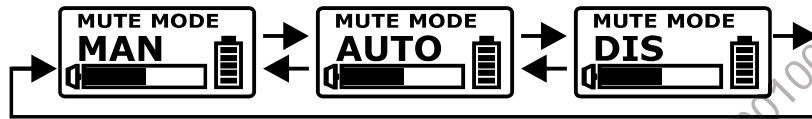

Fig. 15
(F) MUTE MODE: Mute Setting. Fig. 15
(1) Select MAN, AUTO or DIS.